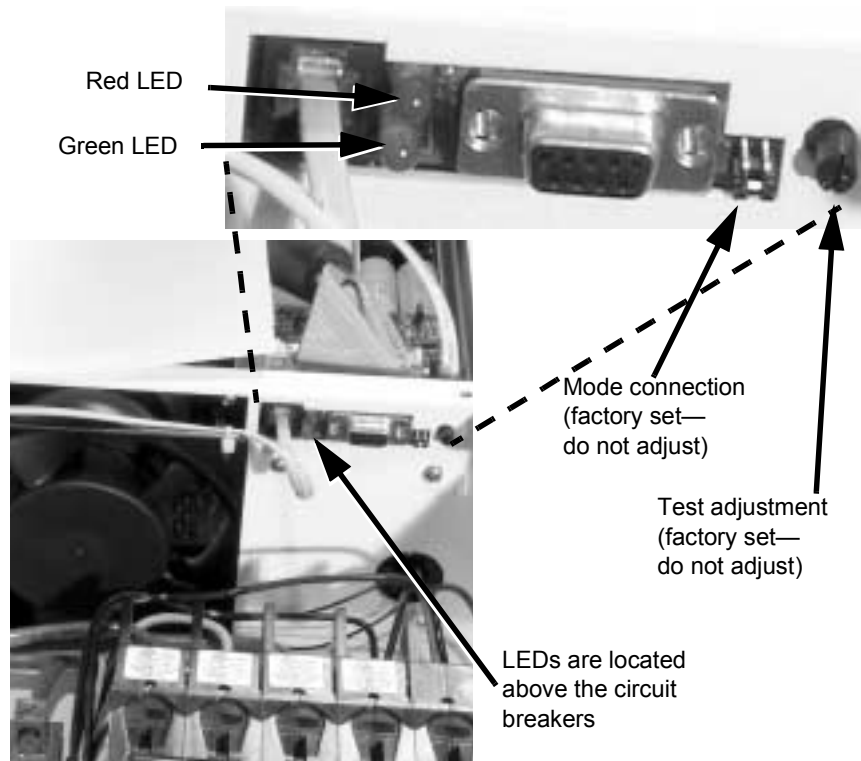

Figure 4-2 Status LEDs location (with circuit breaker cover removed)
3. Locate the red and green LEDs. They should be visible through the upper edge of the circuit breaker cover (see Figure 4-2).